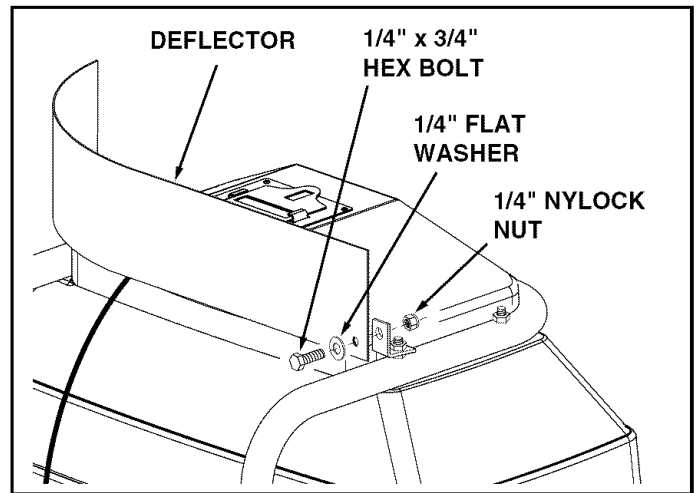

FIGURE 2
4. Fasten the deflector to the angle brackets using two 1/4" x 3/4" hex bolts, 1/4" flat washers and 1/4" nylock nuts. Allow the angle brackets to swivel so that the deflector curves naturally between the angle brackets and then **tighten all nuts.** See figure 2.